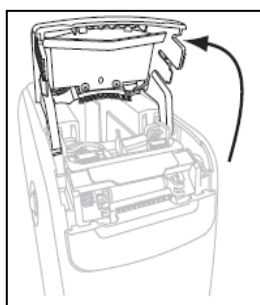

Figure 6
4. Refer to Figure 6. Rotate the upper cover up and back.